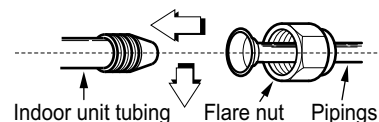

Fig.11
- Sufficiently tighten the flare nut with fingers, and then tighten it with a spanner and torque wrench as shown in Fig.11 & 12